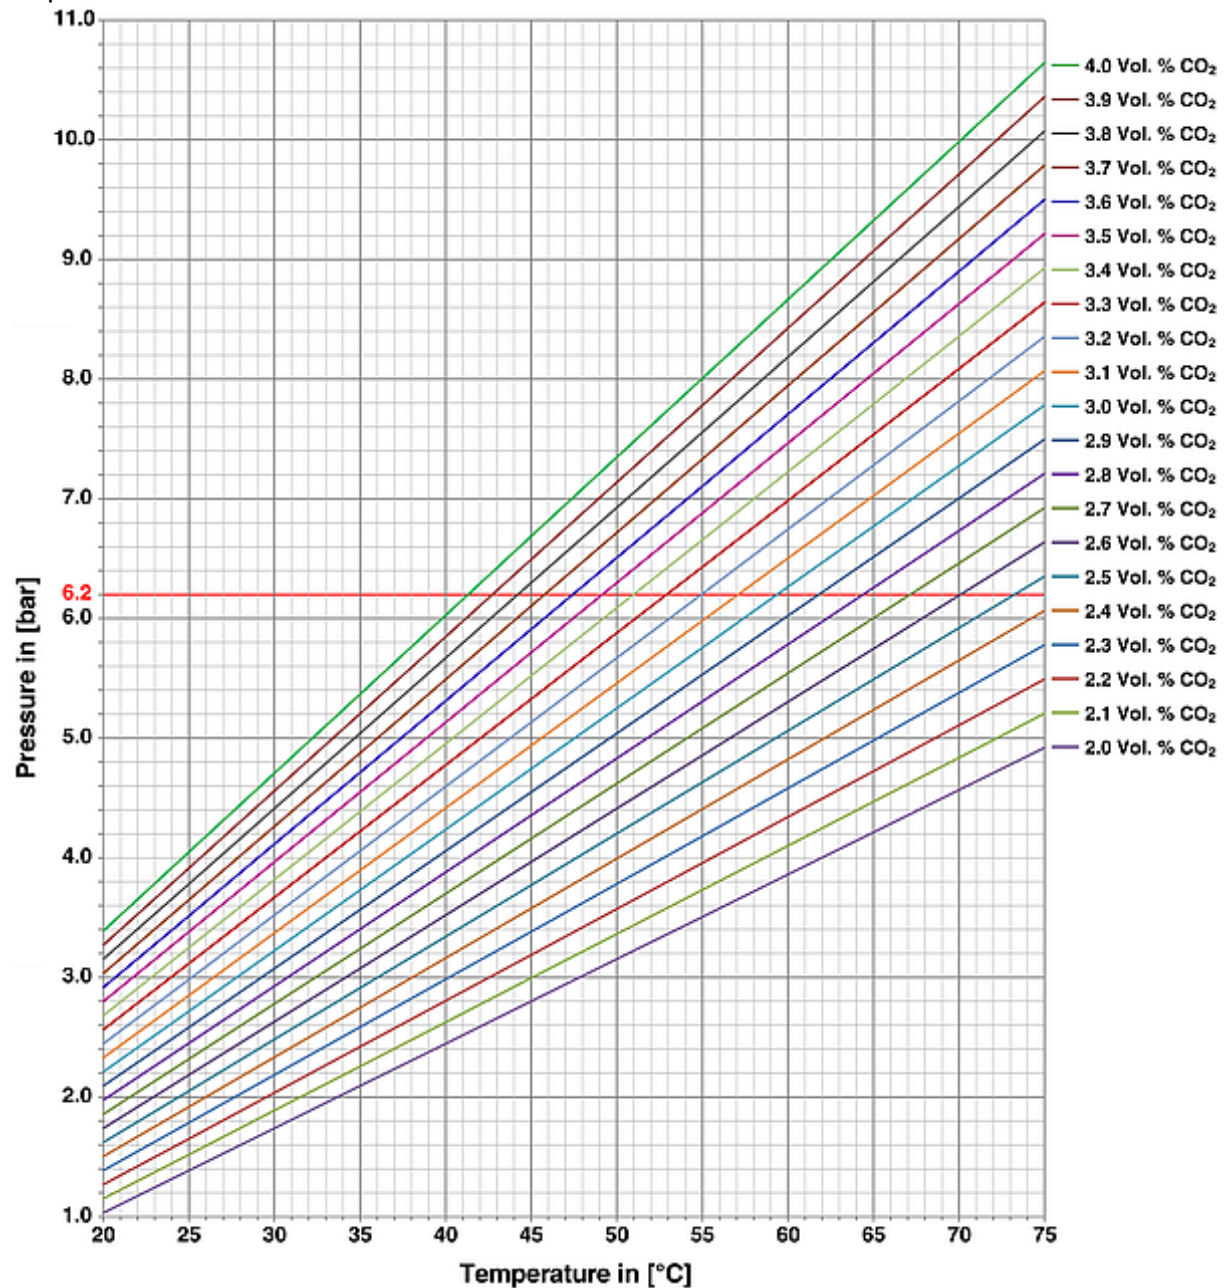

Fig. 4: Relationship to internal pressure between CO₂ content and temperature (Based on empirical data with carbonated water.)
- The relation in Fig. 4 only is valid for a single gas system. Increased air values in the can or the addition of N₂/LN₂ will increase the internal pressure significantly.